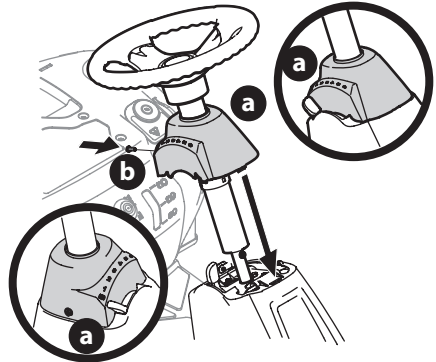

Figure 4
7. Slide the pedestal cap (a) down onto the riding mower and slightly rotate to the right to clip into place. Secure the pedestal cap (a) with the screw (b) previously removed (Figure 4).